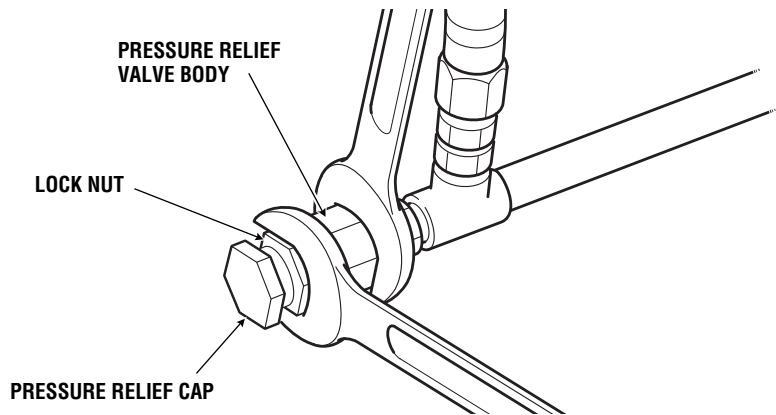

Figure 4-17: Pressure Relief Valve adjustment.
- m) Adjust the air pressure if necessary by releasing the lock nut and turning the pressure relief cap as shown in Figure 4-17.